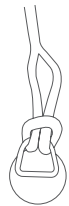

Fig 17 -
3. Pull all the of the remaining Dock Line through the spliced loop until it is tight (Fig 17).